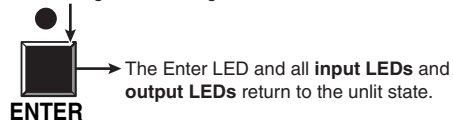

Figure 3-13 — Press the Enter button
5. Press and release the Enter button (figure 3-13).